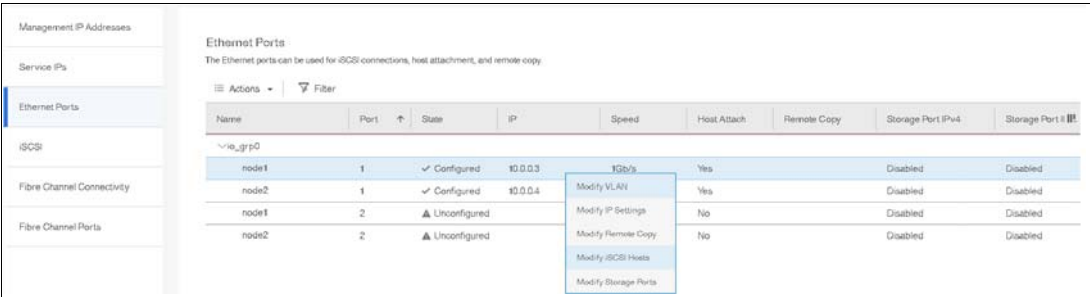

Figure 5-64 Actions menu to modify iSCSI hosts
8. Under **Actions**, you can check the hosts that are enabled for iSCSI. See Figure 5-64.